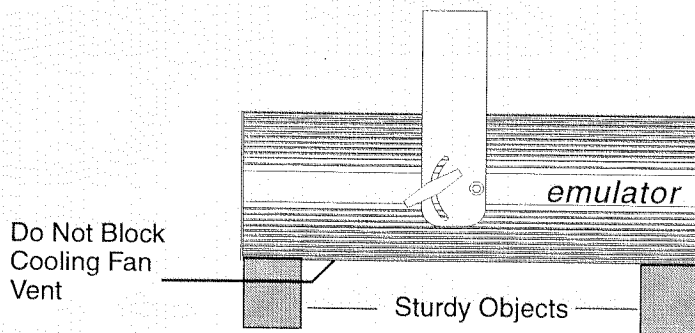

Figure 2.16. Supporting emulator Fixture for Optimization
3. Suspend the emulator Fixture from its yoke where it will be used or prop the fixture up on 2 sturdy objects. Place one supporting object at each end of the fixture, leaving enough room so that you can easily remove the bottom door to access the underside of the fixture. Refer to Figures 2.16 and 2.17. Be careful not to block the cooling fan if you are propping the fixture up rather than hanging it.